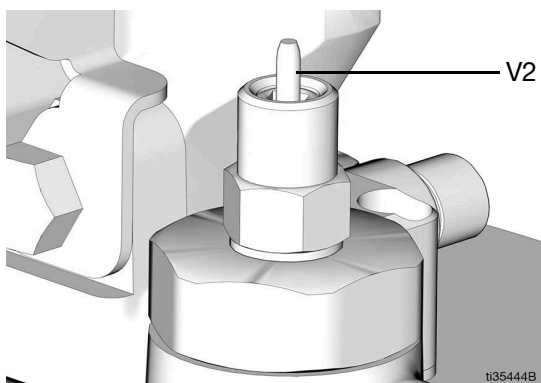

FIG. 16
- Check breather (J) vent for proper operation before filling the tank (K).
- Do not fill tank (K) beyond the overflow port (H).
- Do not use the breather (J) as a port to fill the tank.
5. Start the remote fill station pump (AA).
6. When the tank (K) is filled:
- The remote fill station pump (AA) stalls (dead-heads),
- the auto-fill shut off pin (v2) pops up as shown in FIG. 16,